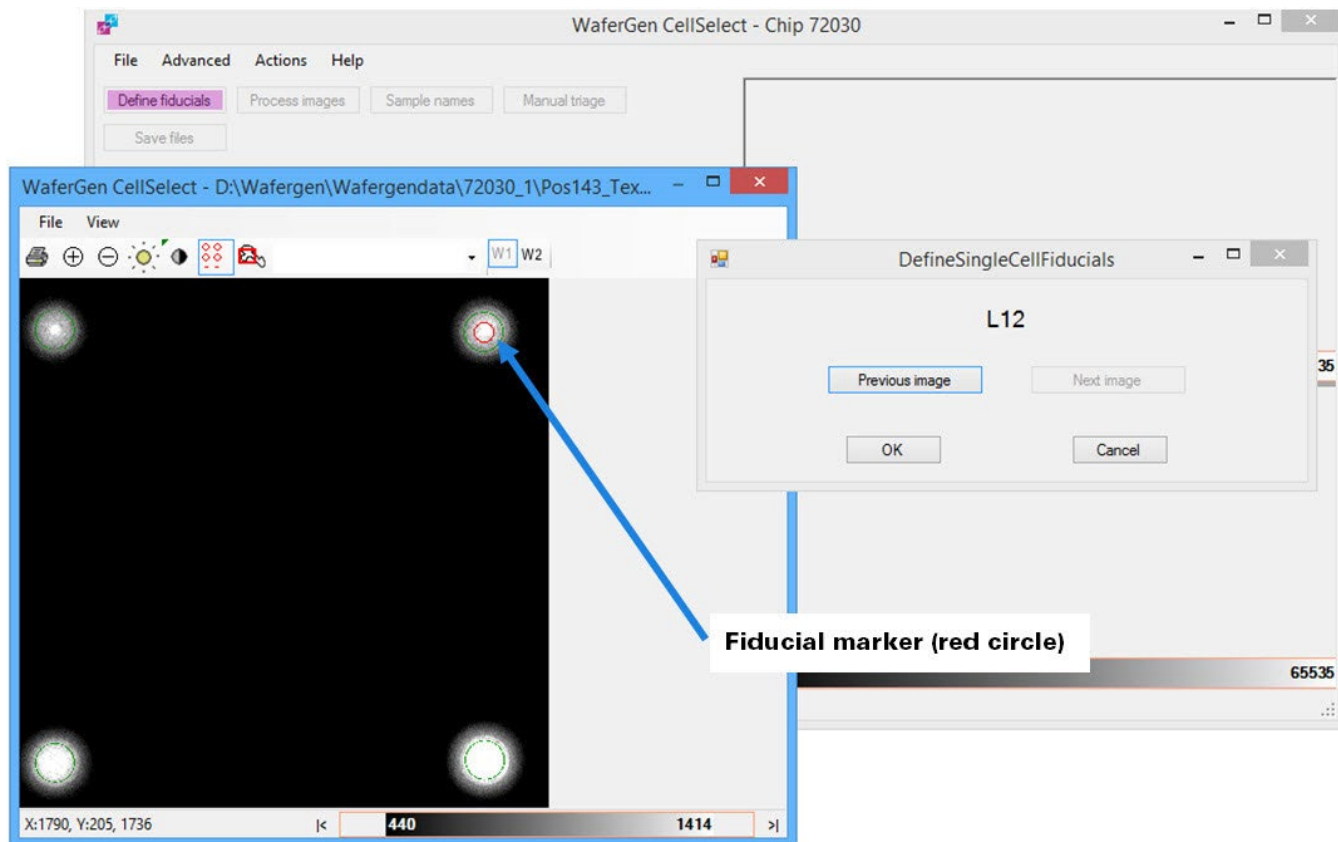

Figure 29. Inspecting and adjusting fiducials.
- a. Click and drag the *DefineSingleCellFiducials* prompt window to the side to view the fiducials image (see Figure 29, below).
- b. If the green circles are not centered properly, click on the nanowell centers with the mouse pointer (changes to red circle; see Figure 29, above).